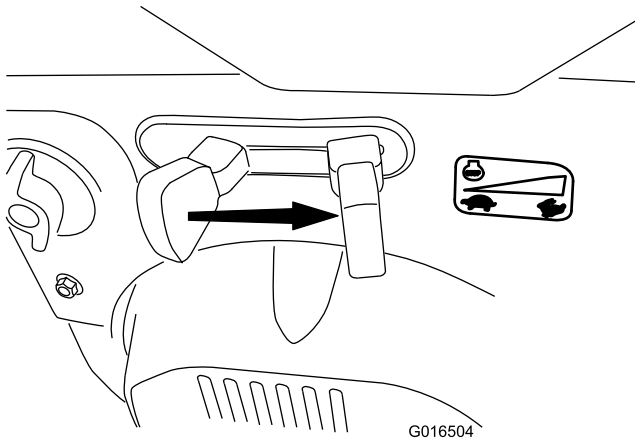

Figure 30
6. Move the throttle to the FAST position (Figure 30).